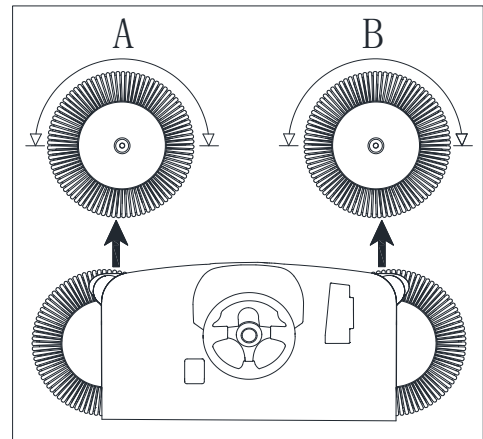
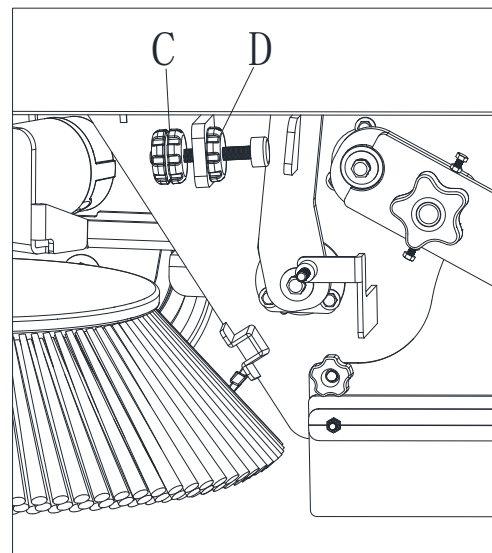

Figure 28
Figure 29
- Check that the side broom prints are as shown in the figure (A and B, Figure 28).
5. Adjust the side broom adjuster (C, Figure 29) until the proper print (A and B, Figure 28) is achieved. Then fasten the adjuster with the ring nut (D, Figure 29).